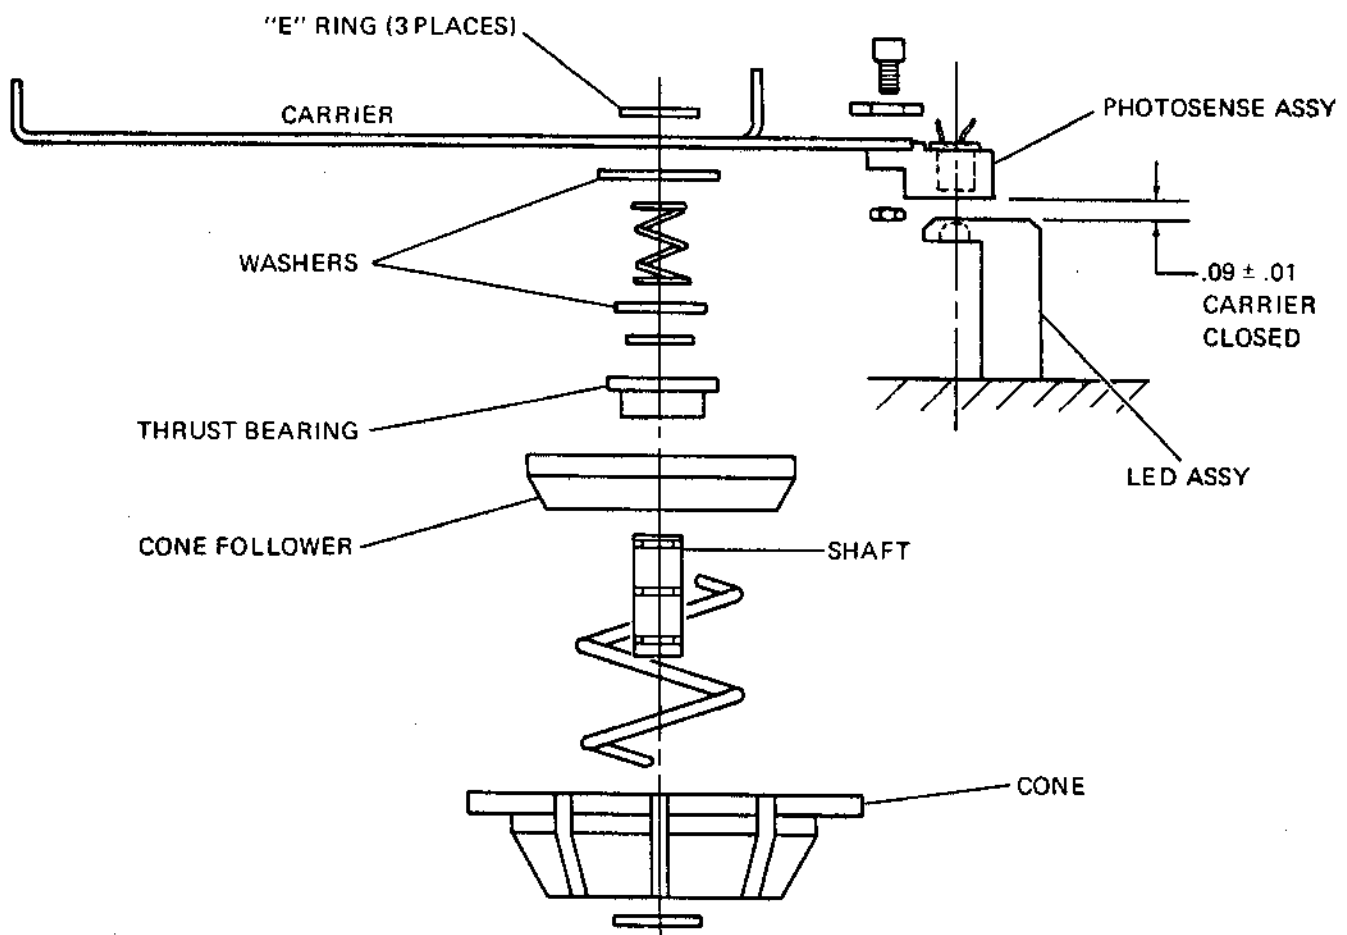

Figure 2-3. Index Transducer Alignment and Replacement
- c. Slacken No. 2 Allen cap screw securing photosense to carrier. (Figure 2-3.)
- c. Remove E ring holding the cone assembly to the carrier. (Figure 2-3.)